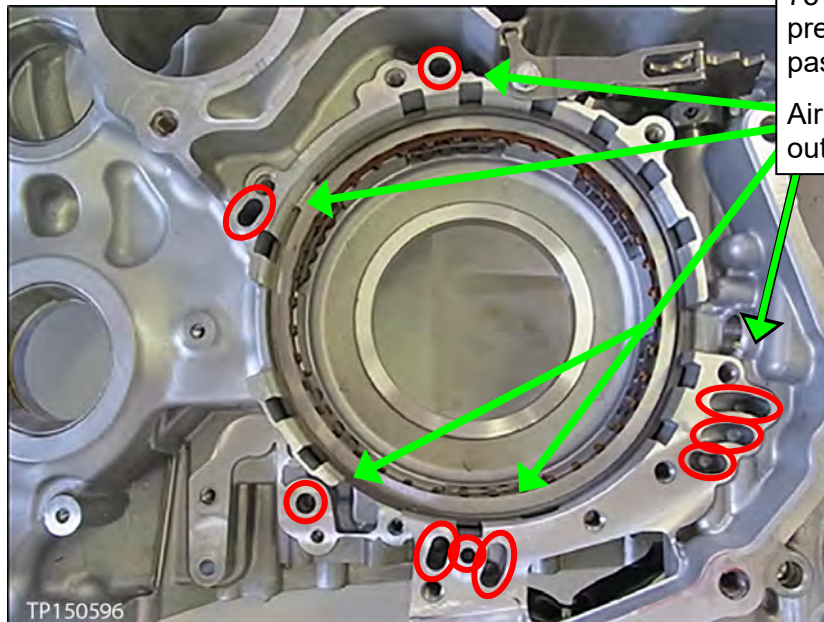

Figure 51
**NOTE:** Do not stand in front of the passages shown in Figure 51 during compressed air use.